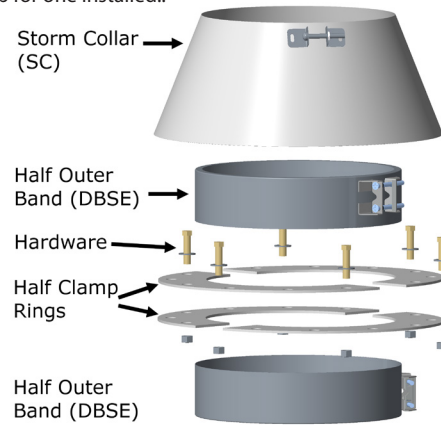
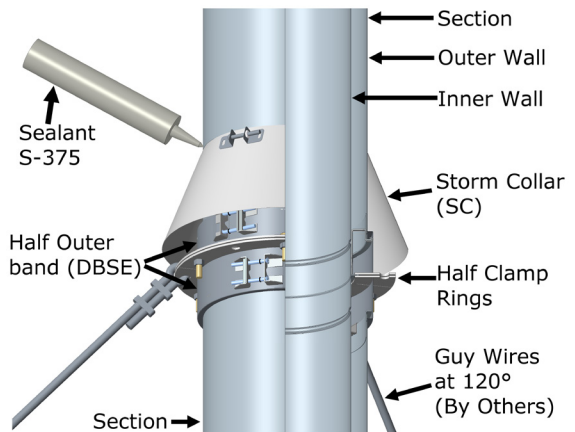

Figure 66a - Guy Section Details
Figure 66b - Guy Section Installed
The Guy Ring (GR) consist of half clamps installed on the on the inner wall flanges of a joint of two sections. The Clamp rings have holes at 60° apart, to have the choice of adding guy wires (by others) at 120° (Ø5 to Ø20) or 60° apart. The guy wires are fixed to the roof by the mean of tensioner or anchor (by others). Rigid Brace can also be used on the Guy Ring. The Storm Collar (SC) is placed around the chimney and sealed to the casing with outer joint sealant S-375. See Figure 66a for parts included in the Guy Ring and Figure 66b for one installed..